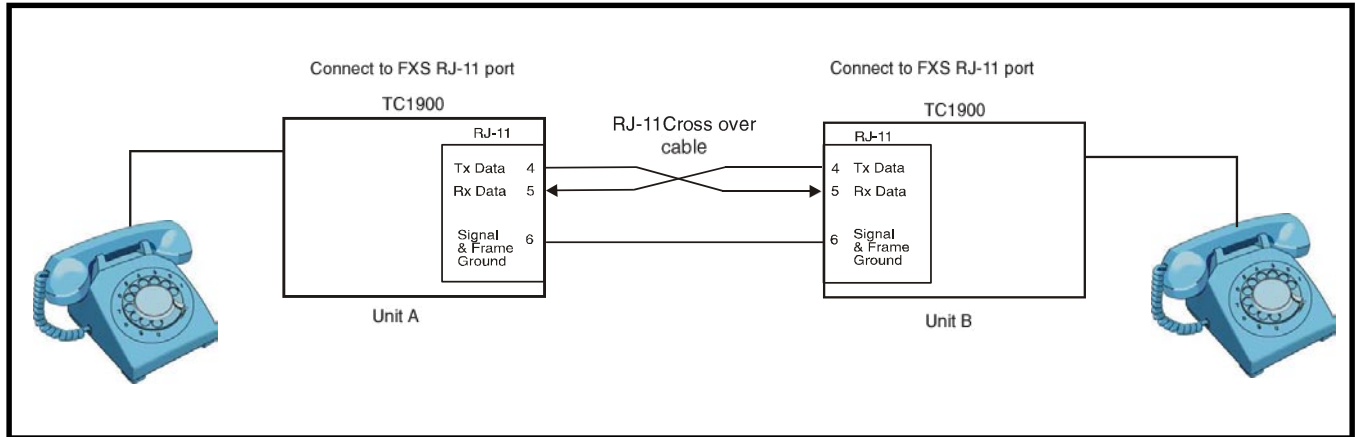

Figure 7. RJ11 Cable for "hotlink" of the TC1900s
4. Connect Unit A to Unit B back to back according to Figure 7 below.